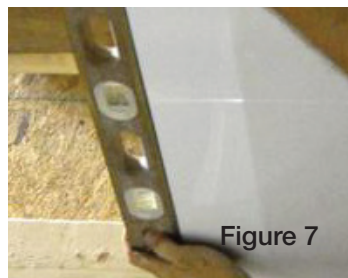

Figure 7
6. Confirm that the unit is level. Check side flanges, back flange and floor behind the trench drain. See Figures 7, 8, and 9.